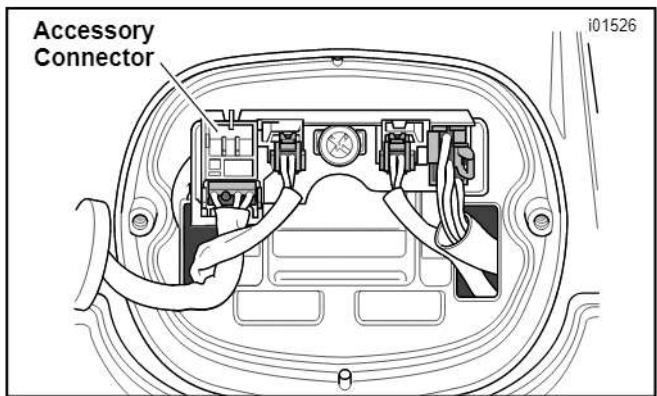

Figure 14. Connecting the License Plate Screws
- 14. See Figure 14. Unplug the fender tip lamp connector from the Accessory connector at the upper left of the tail lamp circuit board, and pull it back through the opening in the tail lamp base to the underside of the fender.
22. See Figure 14. Route the socket housing and wires back through the left-side opening in the tail lamp base. Plug the socket housing into the Accessory connector at the upper left of the tail lamp circuit board. Use tie straps (14) from the kit as needed to secure the wiring inside the tail lamp base.